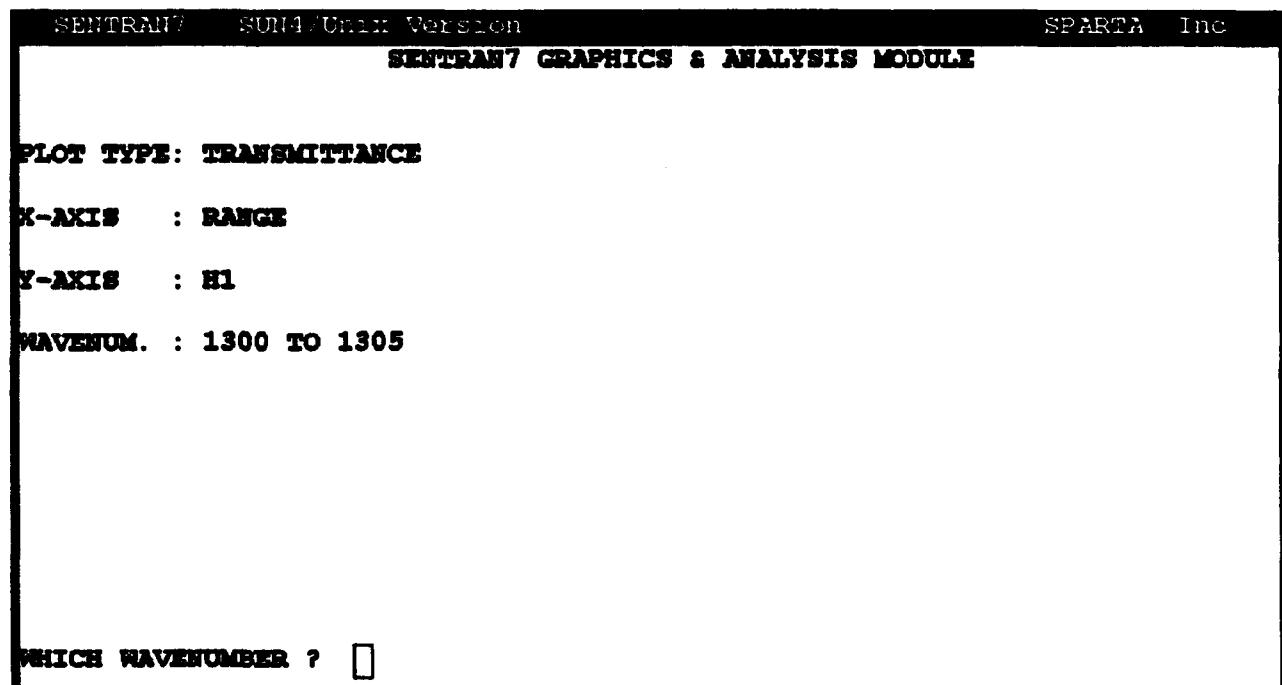

Figure 64. Screen Prompt Requesting the User to Input Wavenumber Range
- 4) We would like the *y* axis to be perturbed parameter H1, so enter a '2' in response to the *y* axis prompt. Figure 64 shows the subsequent screen that will appear.